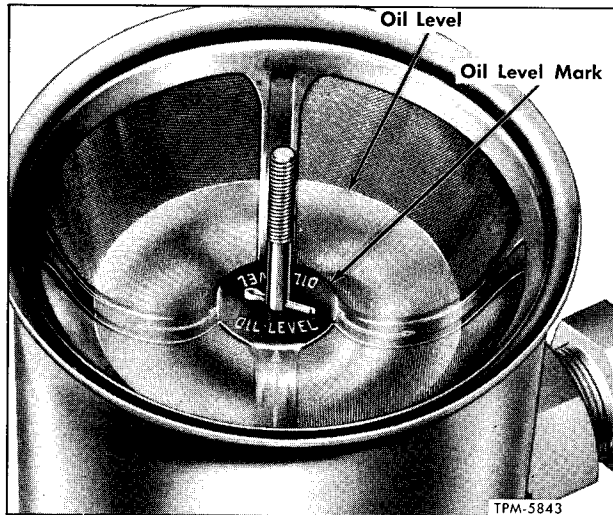

Figure 121—Oil Level in Condenser Fan Drive Fluid Reservoir
5. Make sure all air is expelled from system and reservoir is full to "OIL LEVEL" mark (fig. 121). Check for leaks at all line connections.